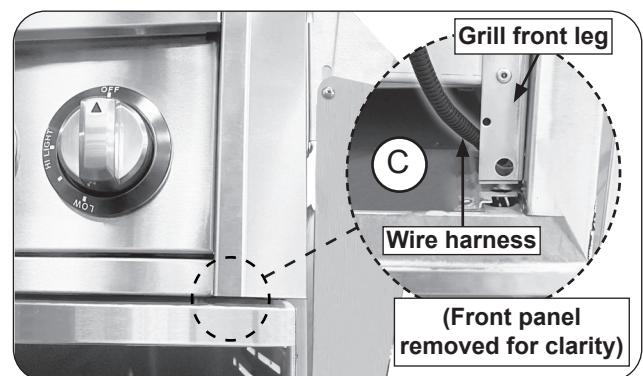

Fig. 10-4 Route wire harness
2. **Before inserting the unit completely and if applicable,** insert the wire harness into the open cavity on the right side of the cart base. Ensure to route the wire harness on the left side of the grill front leg while inserting (see Fig. 10-4, C). Routing the wire harness on the right side of the grill front leg will cause the wiring to get pinched and damaged.